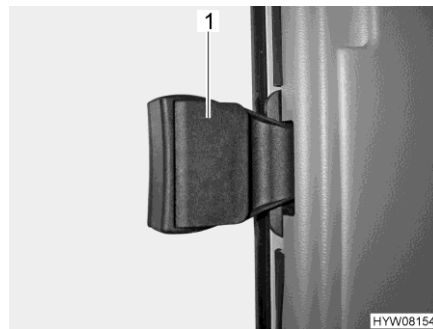

Fig. 60 Front passenger's window
- Unfold the handle (Fig. 60,1).